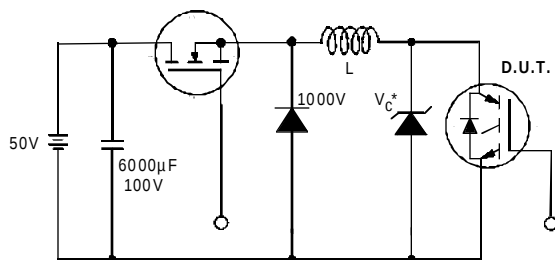

Figure 19. Clamped Inductive Load Test Circuit
② $V_{CC}=80\%(V_{CES})$, $V_{GE}=20V$, $L=10\mu H$, $R_G=23\Omega$, (See fig. 19)
④ Pulse width 5.0 μs , single shot.
③ Pulse width $\leq 80\mu s$; duty factor $\leq 0.1\%$.
- ② $V_{CC}=80\%(V_{CES})$, $V_{GE}=20V$, $L=10\mu H$, $R_G = 10\Omega$ (Figure 19)
- ③ Pulse width $\leq 80\mu s$; duty factor $\leq 0.1\%$.
- ④ Pulse width $5.0\mu s$, single shot.